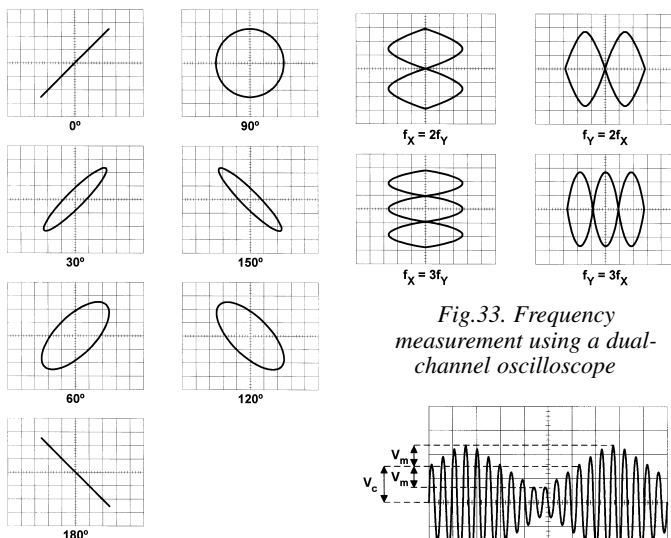

Fig.32. Phase measurement using a dual-channel oscilloscope
A number of useful measurements can be made with an oscilloscope in X-Y mode. It is possible to carry out reasonably accurate measurements of phase angle using Lissajous figures (see Fig.32). In order to obtain these displays, the two signals must be applied with identical gain/attenuation and it is usually necessary to calibrate the instrument by applying the same sine wave signal to the X and Y inputs and adjust the gain controls to obtain a straight line at exactly 45° (see Fig.32). Thereafter, the signal to be measured is applied to the vertical channel (Y) whilst the reference signal is applied to the horizontal channel (X). The shape of the display indicates the phase shift between the two signals. This technique is ideal for rapidly checking the phase shift produced by a network, filter, or amplifier.